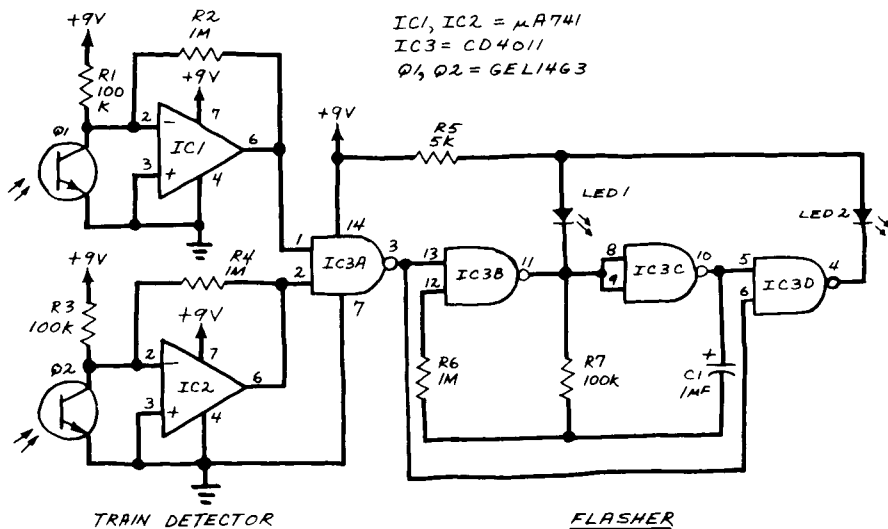
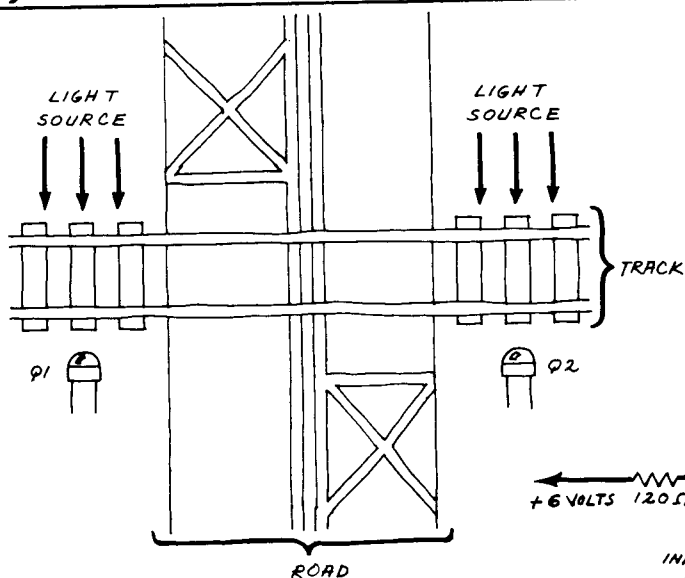
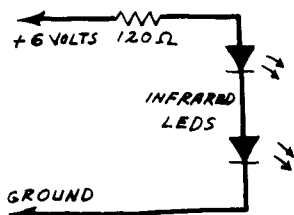
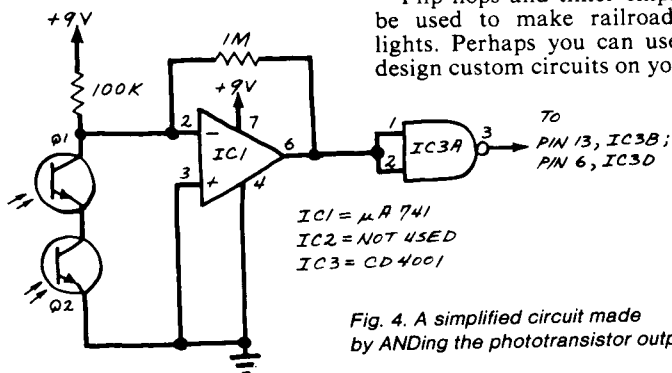

Fig. 1. Schematic diagram of a circuit for a model railroad crossing signal light.
Fig. 2. Suggested positioning for phototransistors for railroad crossing lights.
Fig. 3. A possible infrared illuminator circuit.
Fig. 4. A simplified circuit made by ANDing the phototransistor outputs.
**Circuit Description.** Figure 1 is the schematic diagram of the crossing light. Phototransistors  $Q1$  and  $Q2$  are installed on either side of the protected crossing as shown in Fig. 2. Both transistors are illuminated by a dc-powered light source. A single incandescent lamp can illuminate both  $Q1$  and  $Q2$ , or individual lamps or infrared LEDs can be used. Fig. 3 shows how to connect a pair of infrared emitters so that a forward current of 30 mA will flow.
Referring again to Fig. 1, note that the outputs of  $Q1$  and  $Q2$  are compared and then the result put through a NAND gate. Separate op amps are used to reduce the chance of stray noise pick-up. You can combine the two op amps into a single chip to reduce the parts count by using a dual op amp. A more efficient modification, however, is to eliminate one op amp entirely by wire-ANDing the outputs of the phototransistors.
Fig. 4 shows how this is done. Phototransistors  $Q1$  and  $Q2$  are connected in series. NAND gate  $IC3A$  of Fig. 1 is converted to an inverter to achieve the NAND operation required for proper control of the flasher circuit.